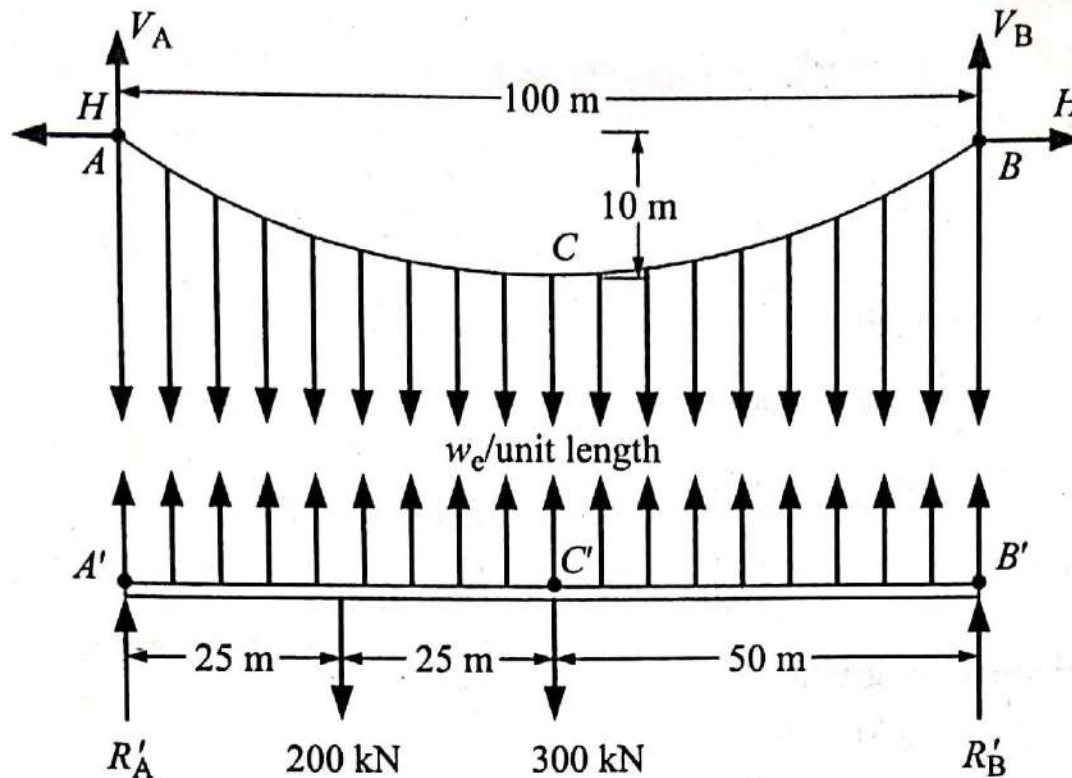

Figure 3
- Let the suspenders exert a uniformly distributed load of w_e per unit horizontal length as shown in Figure 3.